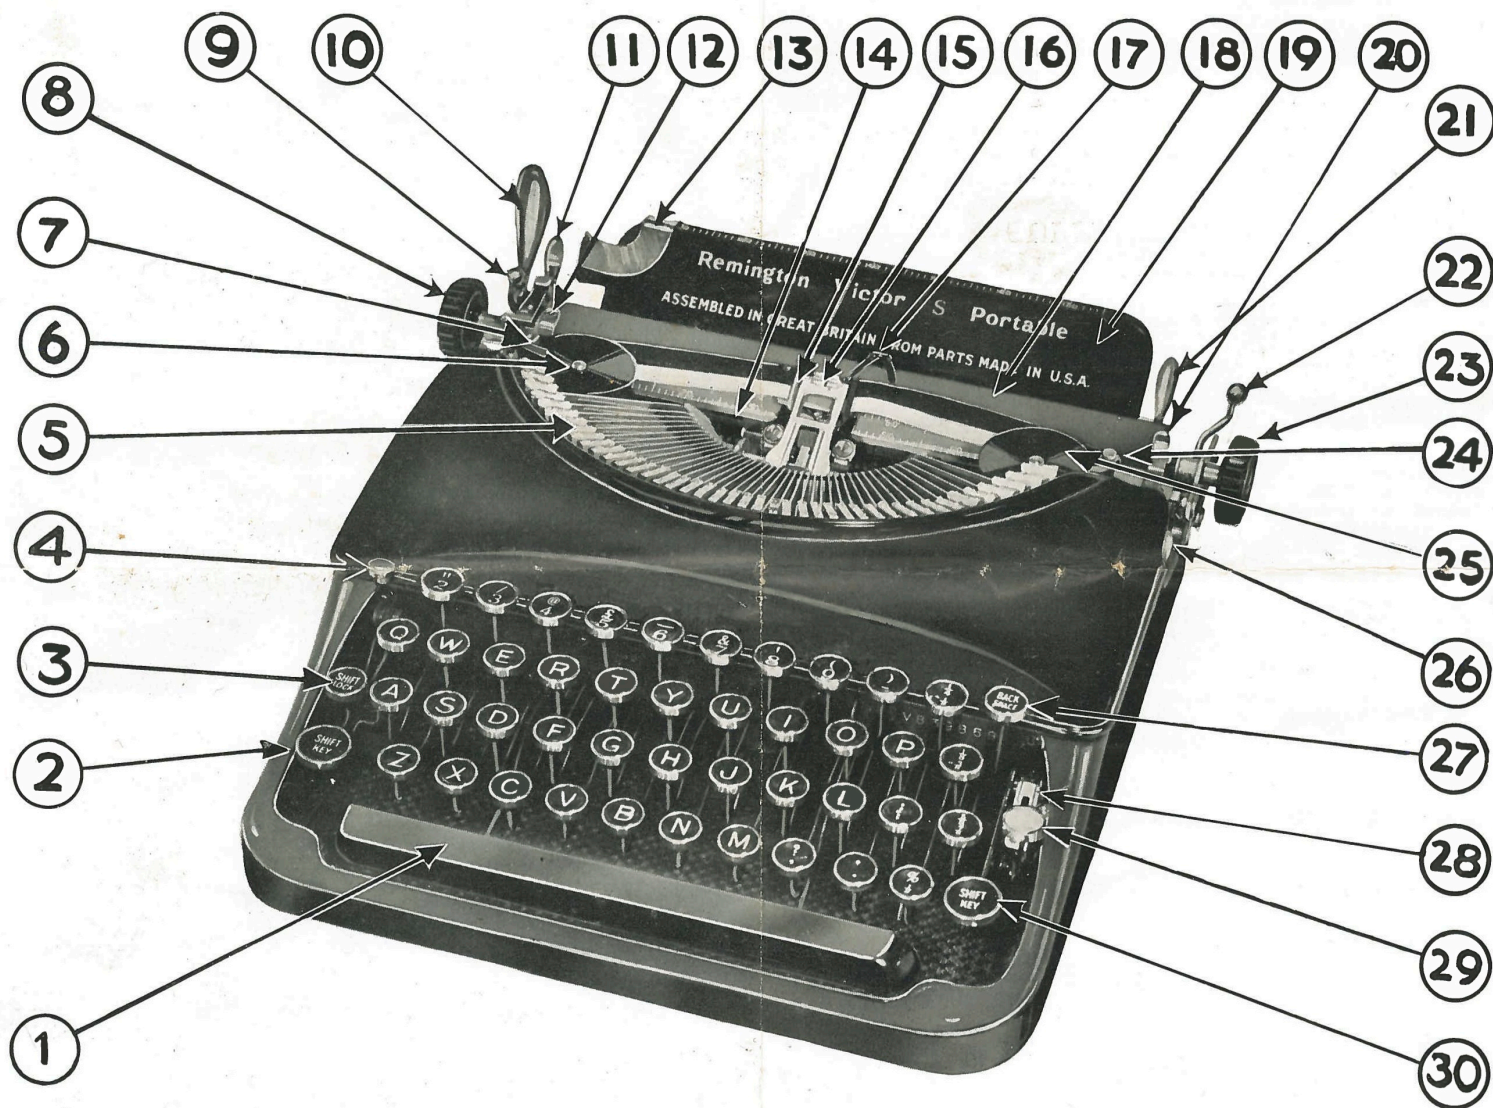

FIG. 5
1. Pull the ribbon thumb knob (see 26, fig. 5) to the right, and wind the old ribbon as far as it will go on to the right spool.
4. Hold back right ribbon trailer finger piece (A), and lift off the right spool with the old ribbon on it.
5. Put the new spool with ribbon on the right spool-shaft (B), and thread the ribbon around the trailer post (C), but under the ribbon trailer (D).
6. Push the ribbon thumb knob (see 26, fig. 5) to the left.
8. Hold back the left ribbon trailer finger piece (A), and put the spool on its shaft.
9. Thread the ribbon around the left trailer post (C), but under the ribbon trailer (D), as on the right.